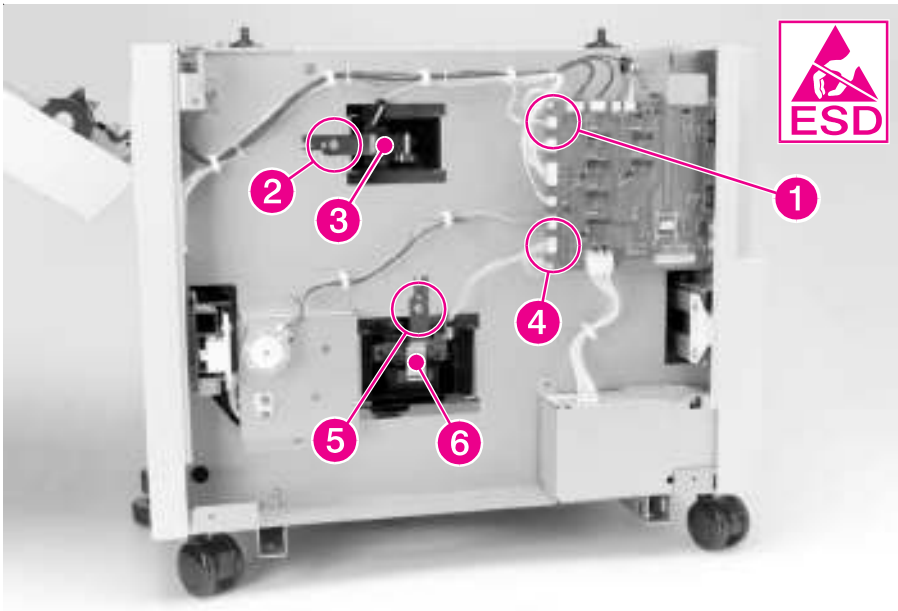

Figure 6-74 2000-sheet Input Tray Paper Size and Paper Quantity Switch
- 2 Locate the cable that runs from the Paper Quantity Switch Assembly on the 2000-sheet Input Tray to the unit's Controller PCA. Disconnect the cable from the Controller PCA (J205 connector), and then free the cable from the cable clips that secure it to the chassis (Figure 6-74, callout 1).
- 1 When reinstalling the metal retaining spring that holds the switch assembly in place (Figure 6-74, callout 2), seat the retaining spring onto the locating pins that are on the chassis.
- 2 Reconnect the switch assembly's cable to the J205 connector on the Controller PCA (Figure 6-74, callout 1).
- 2 Locate the cable that runs from the Paper Size Switch Assembly on the 2000-sheet Input Tray to the unit's Controller PCA. Disconnect the cable from the Controller PCA (J204 connector) (Figure 6-74, callout 4).
- 1 When reinstalling the metal retaining spring that holds the switch assembly in place (Figure 6-74, callout 5), seat the retaining spring onto the locating pins on the chassis.
- 2 Reconnect the switch assembly's cable to the J204 connector on the Controller PCA (Figure 6-74, callout 4).